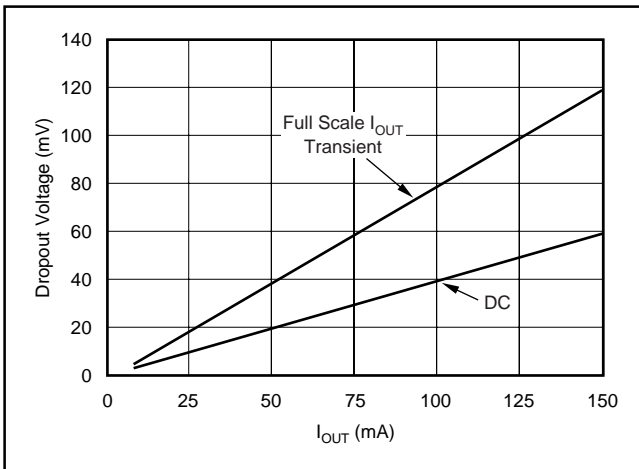

FIGURE 6. Transient and DC Dropout.
The REG101 uses an N-channel DMOS as the “pass” element. When the input voltage is within a few tens of millivolts of the output voltage, the DMOS device behaves like a resistor. Therefore, for low values of V_{IN} to V_{OUT} , the regulator’s input-to-output resistance is the R_{dsON} of the DMOS pass element (typically $600m\Omega$). For static (DC) loads, the REG101 will typically maintain regulation down to V_{IN} to V_{OUT} voltage drop of $60mV$ at full rated output current. In Figure 6, the bottom line (DC dropout) shows the minimum V_{IN} to V_{OUT} voltage drop required to prevent drop-out under DC load conditions.
For large step changes in load current, the REG101 requires a larger voltage drop across it to avoid degraded transient response. The boundary of this “transient drop-out” region is shown as the top line in Figure 6. Values of V_{IN} to V_{OUT} voltage drop above this line insure normal transient response.